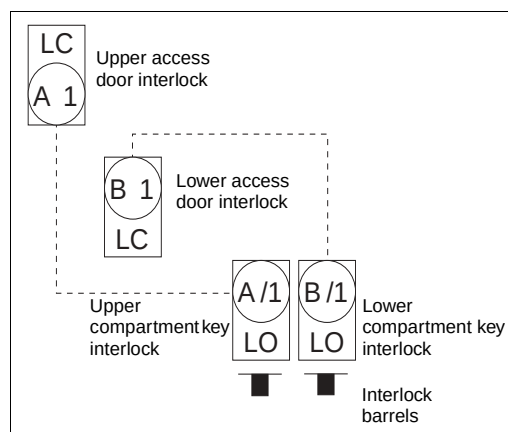

Figure 20: Interlock Status (Step 6)
6. Insert the interlock key into the circuit breaker compartment interlock and lock open (LO) the interlock to retract the interlock barrel for racking (see Figure 20).